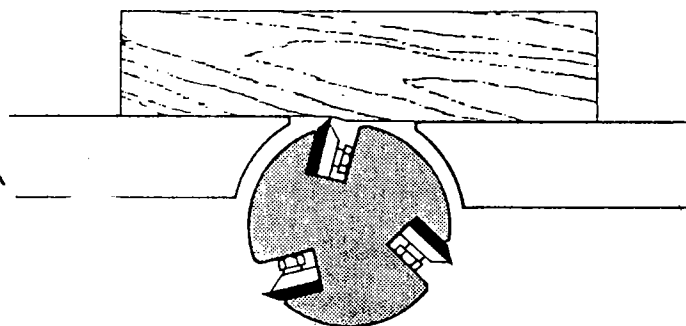

FIGURE 9A
4. For a final check, set the infeed table for no more than a 1/64" cut, turn on machine and run a piece of wood over the cutterhead for 6 to 8 inches. The stock should rest firmly on both tables with no space under the finished cut as shown in Figure 9A. Remember, NEVER attempt to take off more than 1/64" in each pass when making outfeed table adjustments.